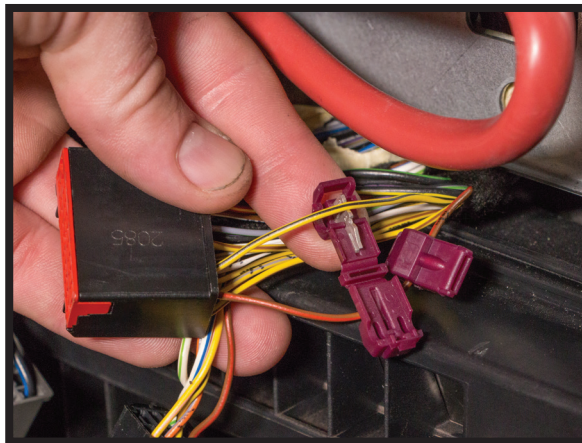

FIGURE 74
6. INSTALL EACH 3-WAY WIRE SPLICE ON THE BLACK 20-PIN CONNECTOR. SEE DIAGRAM BELOW. (FIGURES 74, 75)